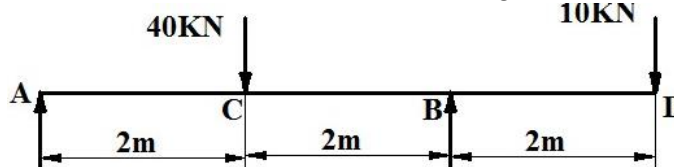

Figure 33
14. Determine the deflection under the loads in the beam as shown in **Figure 33**. Take flexural rigidity as  $IE$  through out